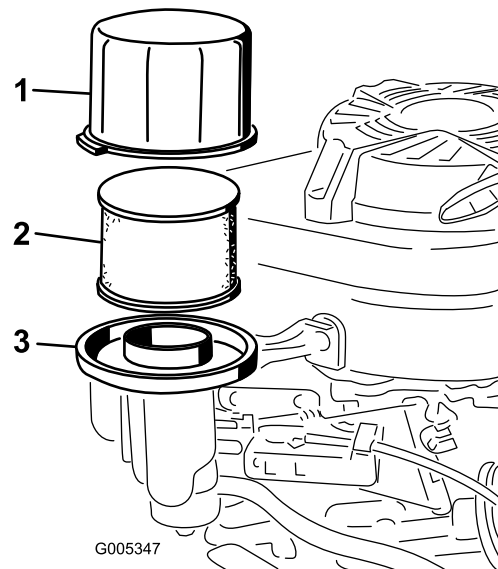

Figure 22
3. Remove the cover and clean it thoroughly (Figure 22).
4. Remove and inspect the paper air filter (Figure 22), and discard it if it is excessively dirty.
5. Remove the foam pre-cleaner and wash it with a mild detergent and water, then blot it dry (Figure 22).